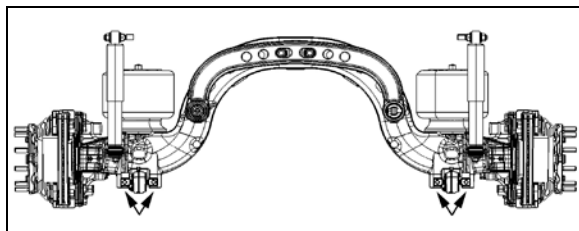

FIGURE 7: JACKING POINTS ON TAG AXLE 11029
*Reinstall wheel mount sensors as shown in figure 7.*